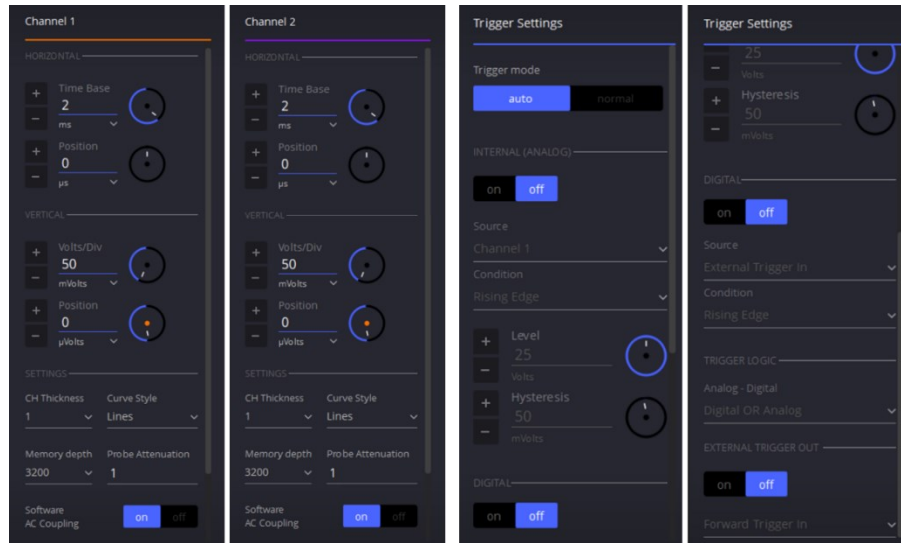

Figure 10. Channel and Trigger Settings
3. Configure each channel by clicking the settings button beside the channel names. Set the vertical scale of both channel to **Volts/Div = 50** and **Position = 0**. In the **Horizontal** pane, set the **Time Base = 2** and **Position = 0** (horizontal scale is uniform for both channel). See Figure 10.
4. Configure the trigger by clicking the **Settings** button beside it. Turn off the trigger. See Figure 10.